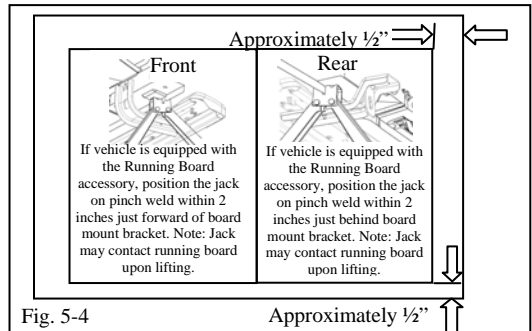

Fig. 5-4
- (g) Place the 4" x 3" white sticker on the inside of the cover as shown. (Fig. 5-4)